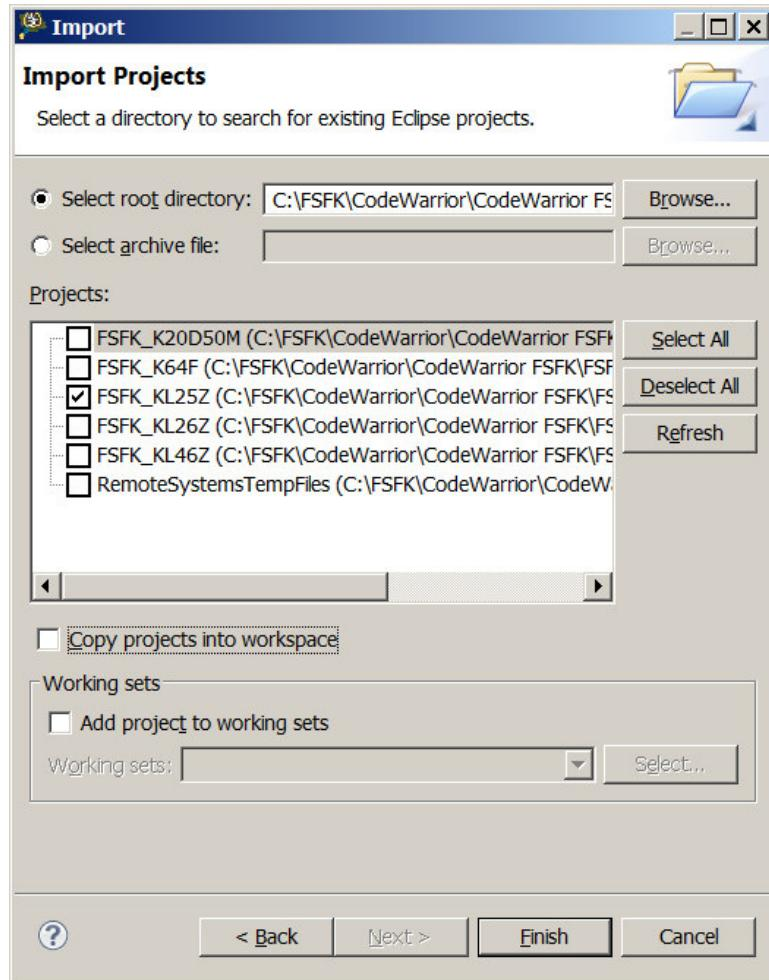

Figure 9. Import Projects window
5. Click **Next**. In the Import Window that appears, navigate to the folder containing the CodeWarrior FSFK directory, and select it. See Figure 9. Click “Finish”.